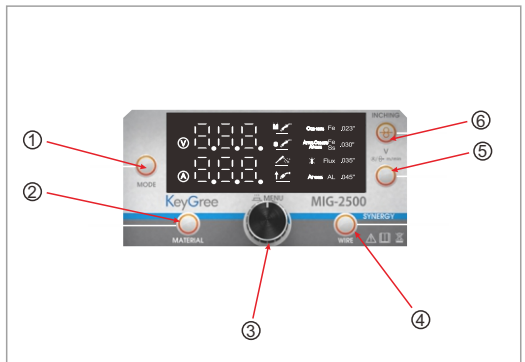

FIG. 1
- MIG(Flux, CO2 100% or Ar/CO2 Mix/AL Position (**FIG 1**).